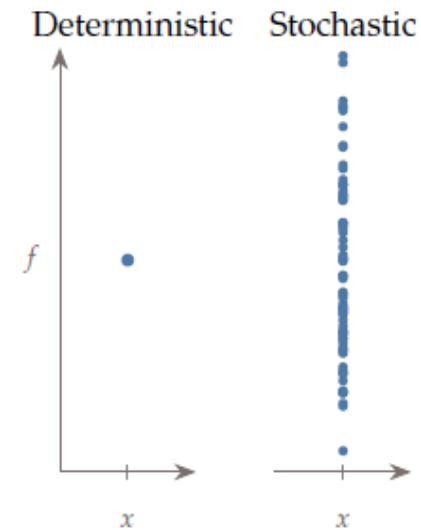

Figure 1.19 Deterministic functions yield the same output when evaluated repeatedly for the same input, whereas stochastic functions do not.
- A stochastic model will yield different function values for repeated evaluations with the same input (Fig. 1.19).